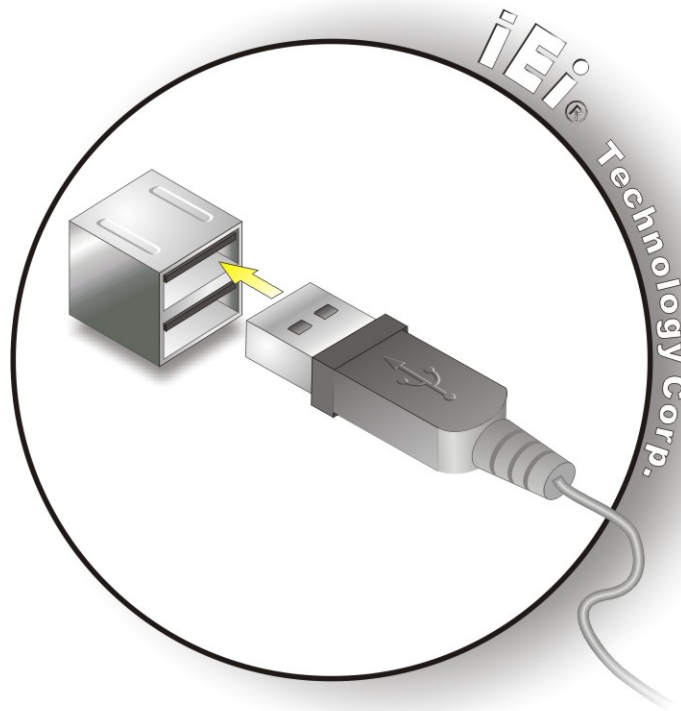

Figure 4-27: USB Device Connection
Step 2: **Align the connectors.** Align the USB device connector with one of the connectors on the bottom panel. See **Figure 4-27**.